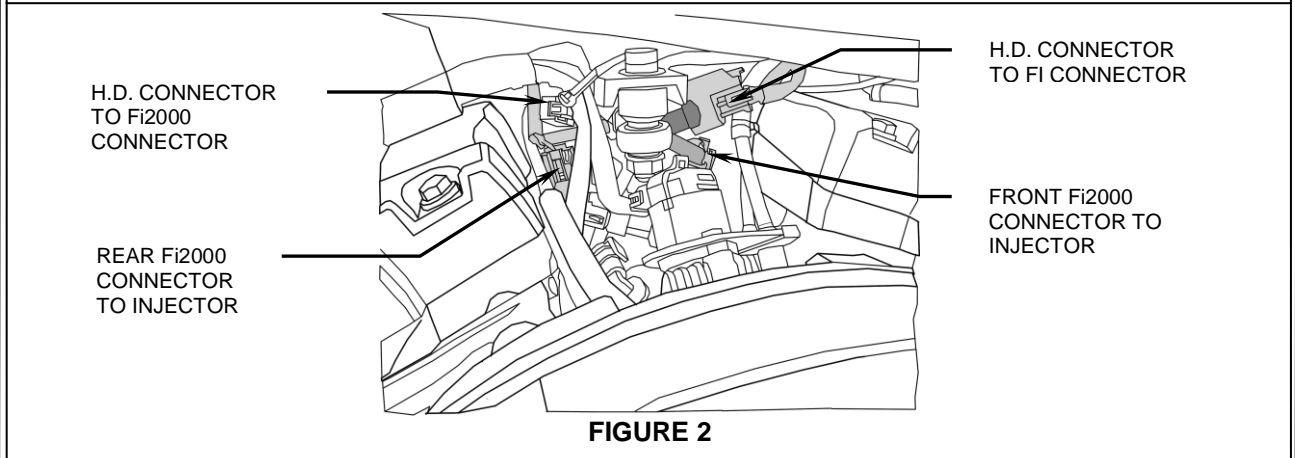

FIGURE 2
4. Attach the Fi2000R module's forward injector plug, with the grey and red wires to the front injector. Take the original female HD connector and insert the corresponding Fi2000R male connector, with the brown and red wires, into it, refer to Figure 2.
5. Attach the Fi2000R module's rear female injector plug, with the blue and red wires, onto the rear injector. Then take the original female HD connector and insert the corresponding male Fi2000R connector, with the green and red wires, into it, refer to Figure 2.